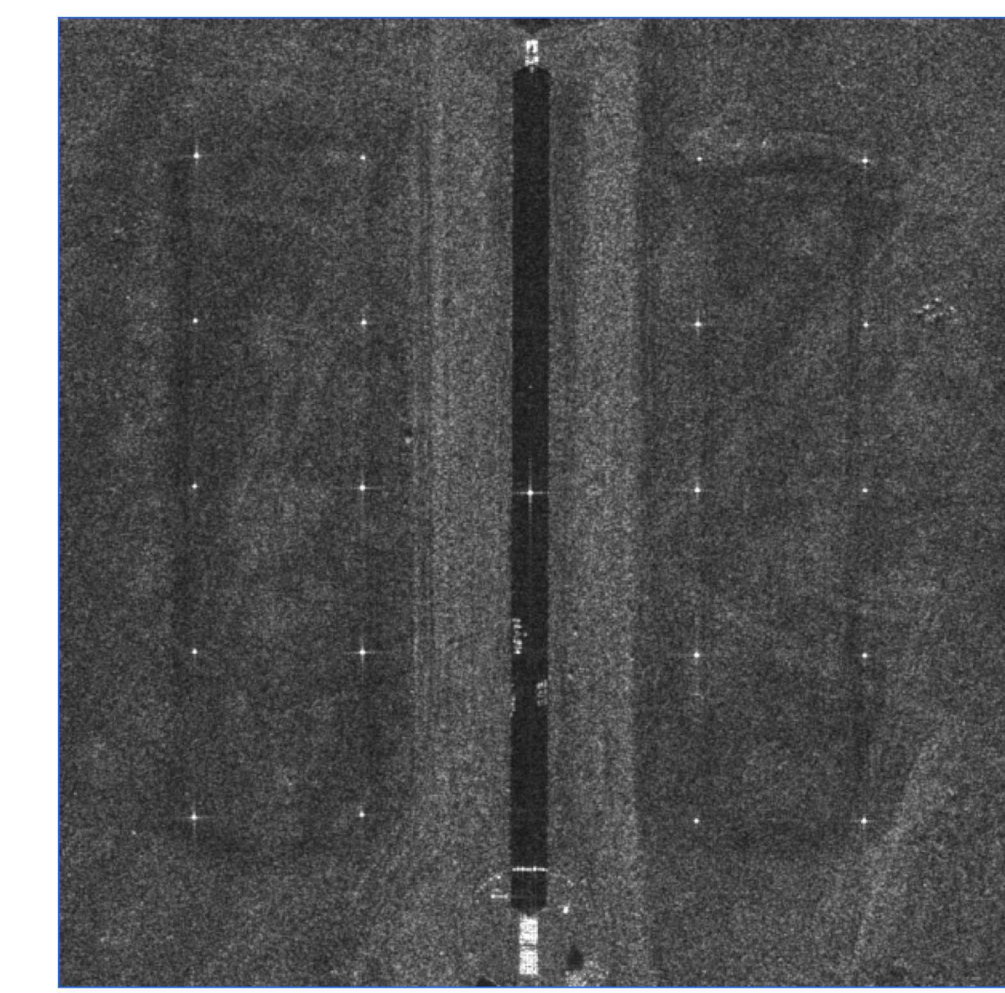

Figure 1: Image formed on an S1 system with 16 S1 chips.
- Images computed on S1 and Intel (double precision) are indistinguishable to human eye. (See Figures 1 and 2.)